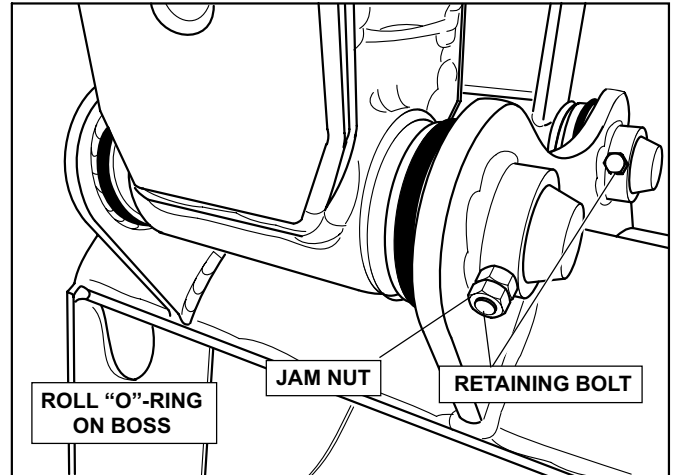

FIGURE 4.55B
- b. Roll "O"-Rings onto the bucket bosses. See Figure 4.55B.
- c. Remove jam nuts, nuts, and retaining bolts from both pins. See Figure 4.55B.
- i. Install retaining bolts with nuts and jam nuts on both pins. See Figure 4.55B.
- j. Roll "O"-Rings onto the grooves between bucket/arm, and bucket/bucket link. See Figure 4.55B.